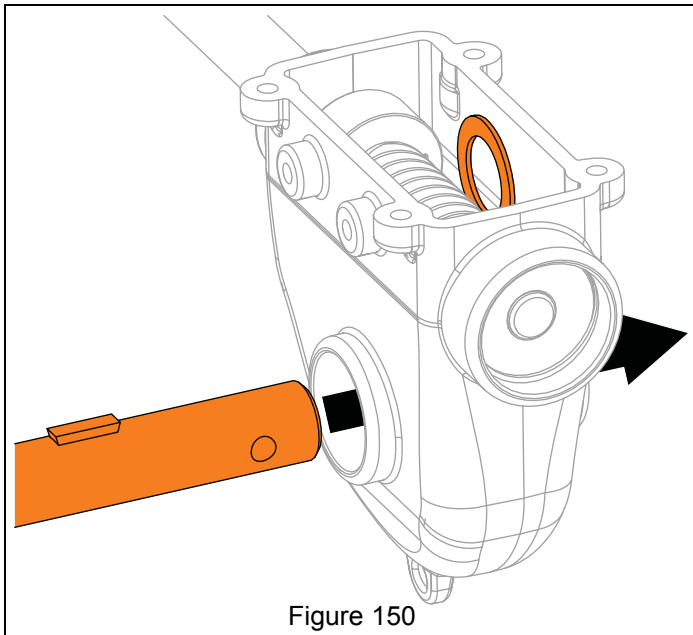

Figure 150
9. Reinstall flange bushing onto impeller shaft end. With a driver, strike bushing until positioned just below retaining ring groove. See Figure 150.